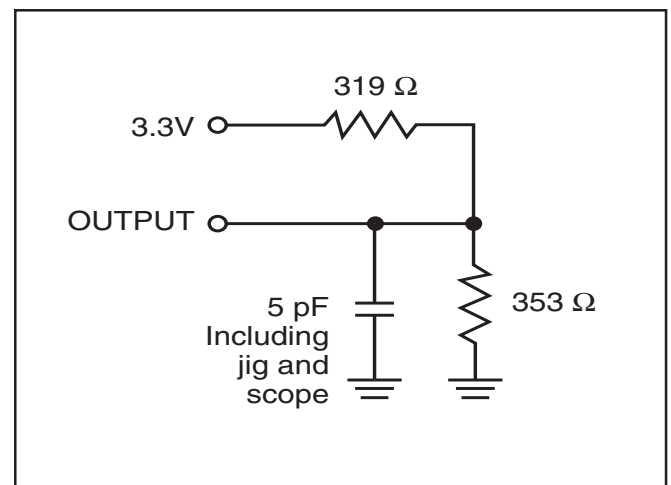

Figure 2
2. Tested with the load in Figure 2. Transition is measured ±500 mV from steady-state voltage.
2. Tested with the load in Figure 2. Transition is measured  $\pm 500$  mV from steady-state voltage. Not 100% tested.